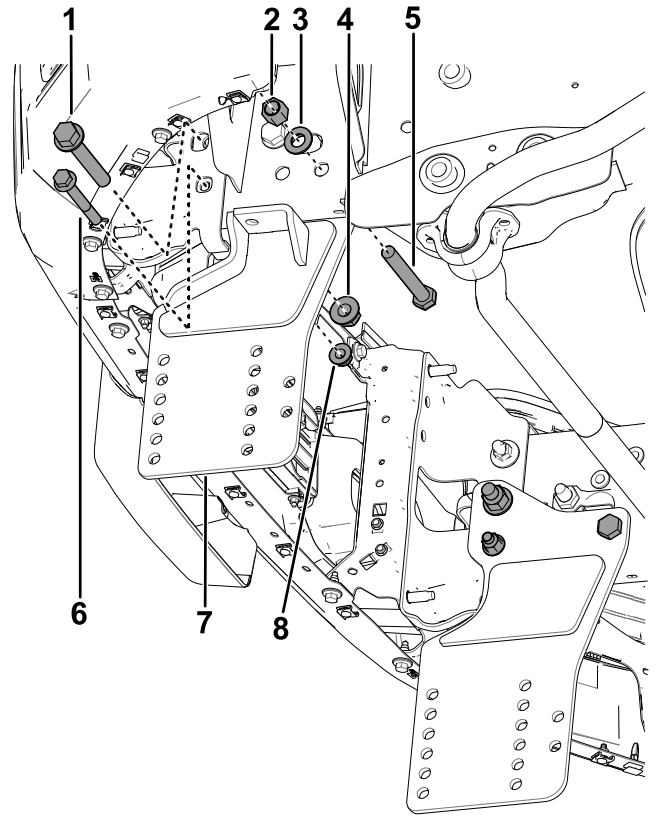

**Figure 2**
3. Remove the existing fasteners indicated in Figure 2.